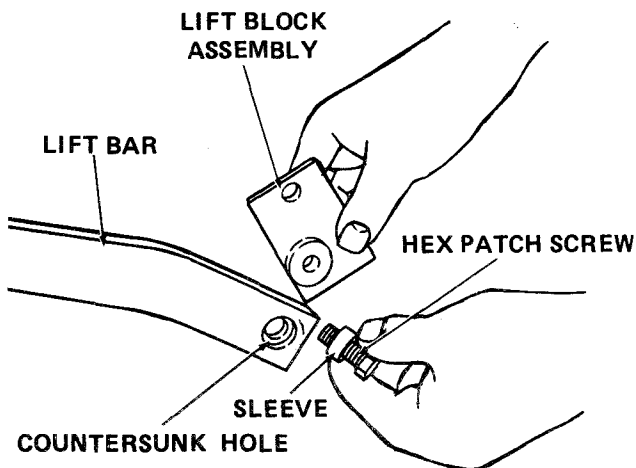

Figure B-10
- e. Lubricate countersunk hole in end of lift bar with 251H EP grease. Place sleeve (U) over hex patch screw (V) and insert through countersunk hole. Thread lift block assembly (11) onto hex patch screw until screw end is flush with lift block assembly. Refer to Figure B-10.